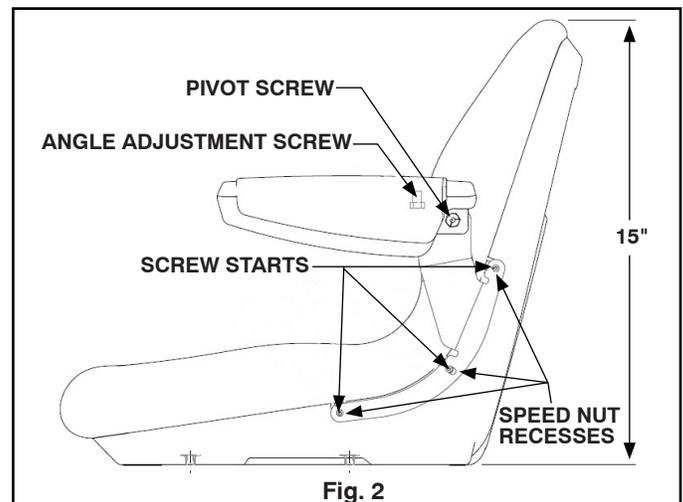

Fig. 2
1. Fit the six, three per side, speed nuts into recessed areas as shown in Fig. 2. The outside surface of the shell has screw starts molded in. These screw starts are to line up with the hole center of the speed nut. The flat surface of the speed nut should be on the outside of the shell, and the threaded surface of the speed nut should be between the cushion and the shell. If there is glue on the shell surface in the speed nut recessed area, break it free from the shell with a sharp instrument (knife, flat bladed screw driver, or wood chisel with flat side to shell). This is to allow the speed nut to be fully seated.